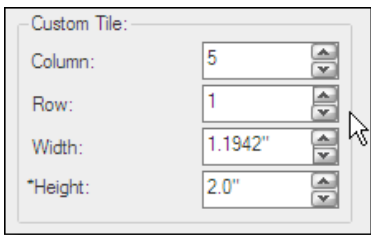

Figure 6—Custom Tile
2. In the **Custom Tile** area (see Figure 6), enter the new **Width** and **Height** values for the tile. You can also click on the tile line in the image and drag it to a new location.